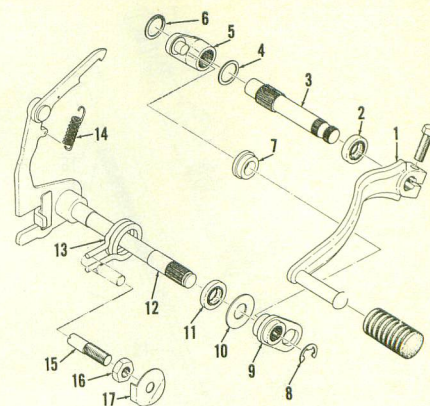

Fig. Y18-17—View of two shaft type shift arm assembly. Change shaft (12) on single shaft type units extends completely through case and mounts lever (1).
Gearbox components may be serviced after engine is removed from frame and disassembled. Drain gearbox lubricant. Use appropriate puller to remove magneto flywheel or starter dynamo rotor. Remove clutch assembly, primary drive gear, kick starter and kick idler gear from right side of engine. Remove shifter cover from left side of engines so equipped. Remove "E" ring (8—Fig. Y18-17), change lever (9) and secondary change shaft assembly (3). Pull primary change shaft (12) from right side of engine. Remove change shaft assembly from right side of units with one piece change shaft. Remove shift